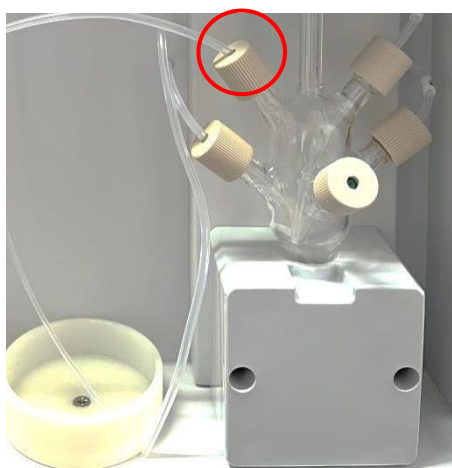

Fig.6.16
7) Unscrew the nut of the air inlet in the IC reaction tank (Fig. 3.1) (Fig. 6.14), pull out the gas pipe from the IC reaction tank and remove the nut (Fig. 6.15), then screw the other end of the 100cm gas pipe on the air inlet joint through the nut (Fig. 6.16), and observe whether the gas flow on the software is $180\pm 5\text{mL/min}$. If it is normal, it means that the gas path is blocked or air leakage is generated in the UV digestion tank module, which needs to be disassembled and returned to the factory for maintenance according to '6.3.5.2 Replacement of the UV digestion Tank'. If beyond the scope, contact after-sales engineers for further judgment. At this point, the whole gas flow